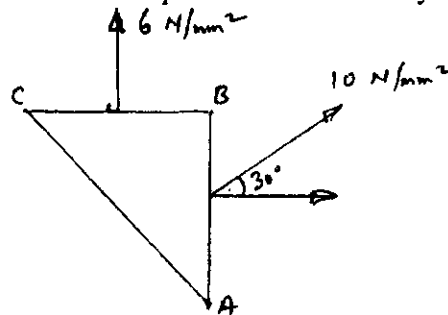

Fig.Q.3(c)
- c. At a certain point in a material under stress, the intensity of the resultant stress on a vertical plane is 10 N/mm^2 inclined at 30° to the normal to that plane and the stress on a horizontal plane has a normal tensile component of intensity 6 N/mm^2 , as shown in Fig.Q.3(c). Find the principal stresses and the location of the planes on which they act. (08 Marks)